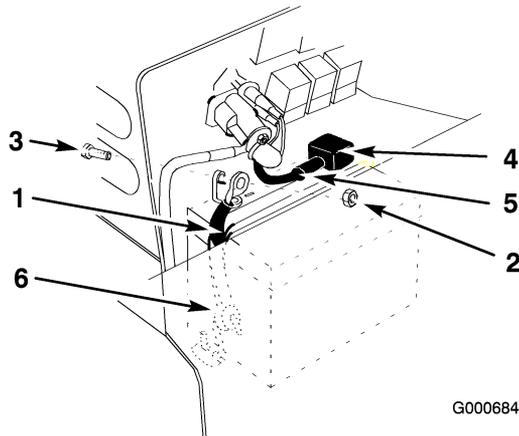

Figure 44
- Disconnect the negative (black) ground cable from the battery post (Figure 44).
- Lift the red cover up from the positive cable. Disconnect the positive cable (red cover) from the battery post (Figure 44).
- Remove the battery hold down strap (Figure 44). Remove battery from the tractor.
- Secure battery with hold down strap (Figure 44).
- Using the bolt and nut, connect the positive (red cover) cable to the positive (+) battery post (Figure 44). Slide the rubber cover over the battery post.
- Using the bolt and nut, connect the negative (black) cable to the negative (-) battery post (Figure 44).